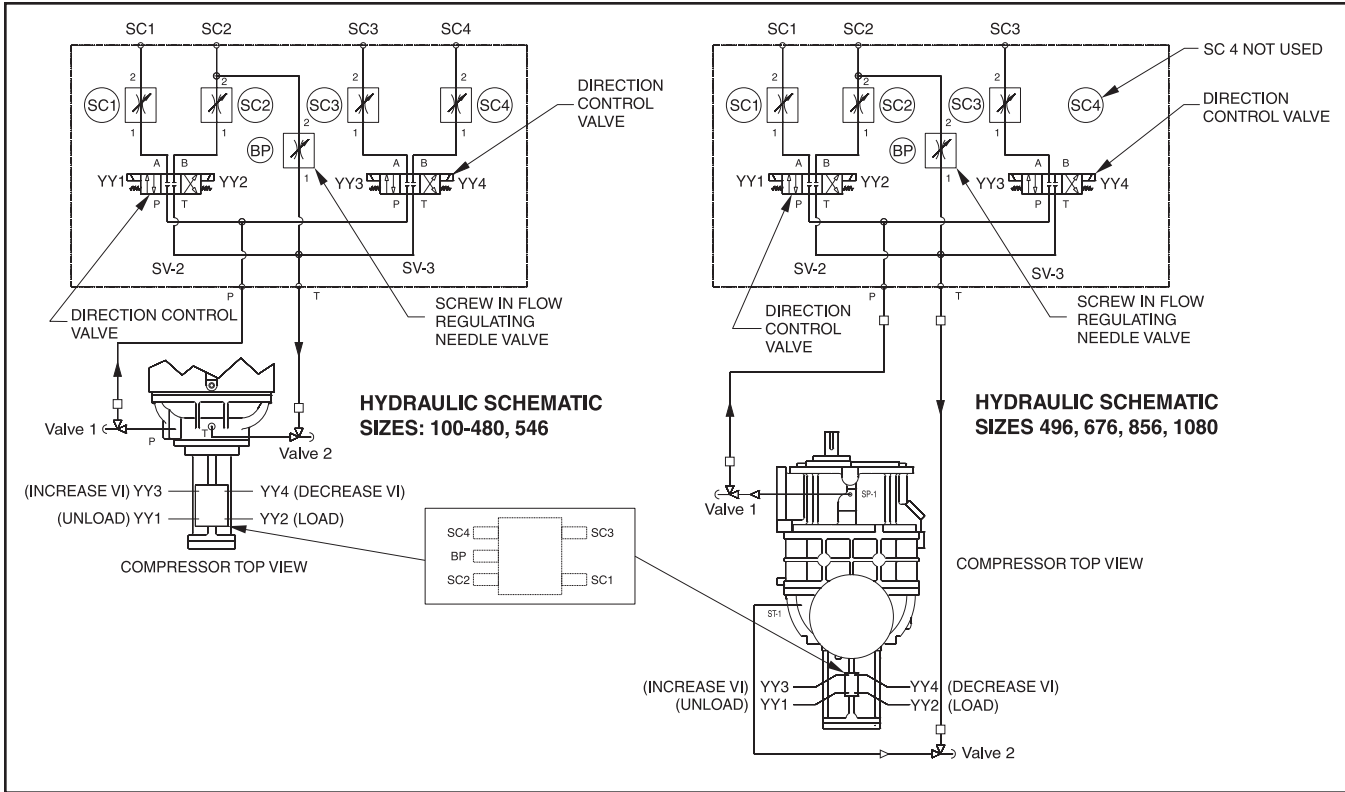

Figure 17
NOTE: See Figure 17 for port references.
- Set operating session to session [2] and go to the screen shown in Figure 17 by pressing [Menu] > [Calibration] > [Analog Outputs] > [Output Calibration].